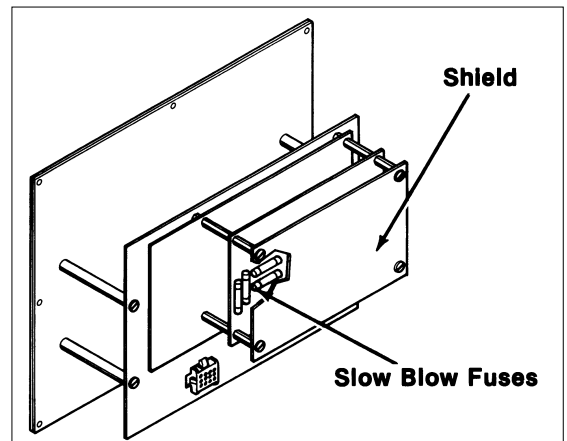

Figure 7 - Safety Fuse Replacement
4. Remove the four screws from the shield to gain access to the fuses, Fig. 7.